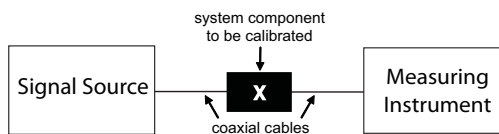

Figure 4 – Setup for Insertion Loss Measurements (I)
- 2) **INSERTION LOSS MEASUREMENTS (I)** - Without changing any equipment settings, and with the equipment set up as shown in Figure 4, measure and record the signal level (*in dBμV*) at the same frequencies used in Step 1.